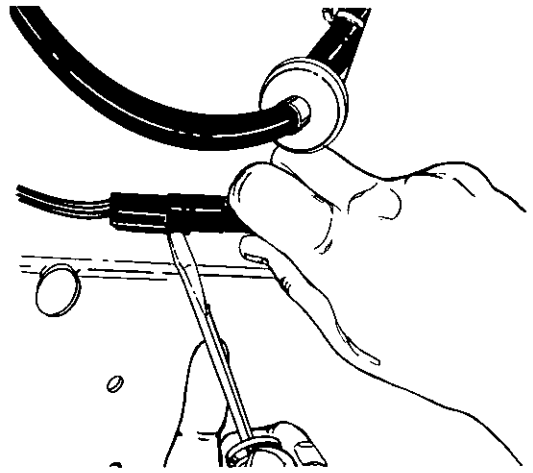

FIGURE 23.
1. Unplug the electric clutch which is located on the left hand side of engine at the frame opening. Using a screwdriver, lift up on the tab on the plug and pull plug halves apart. See figures 23 and 24.